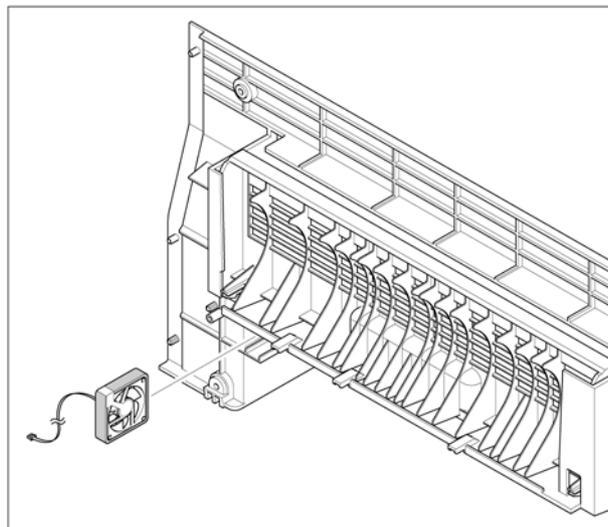

Figure 2
3. Remove the Fuser Fan, Figure 2.